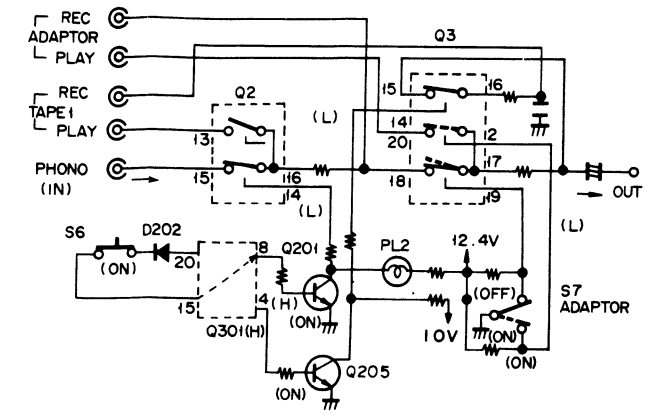

Fig. 7-3 Signal path with phono on, adaptor off
5. If the adaptor switch is on, the contact point on the on side is grounded. This makes pin 19 of Q3 go to the high level and switches off the switches of pins 18 and 17. At the same time, pin 2 of Q3 goes to the low level to switch on the switches of pins 20 and 17 of Q3 and send the signal received through the adaptor's play terminals to the control circuit. The path of these signals is shown in figure 7-3.